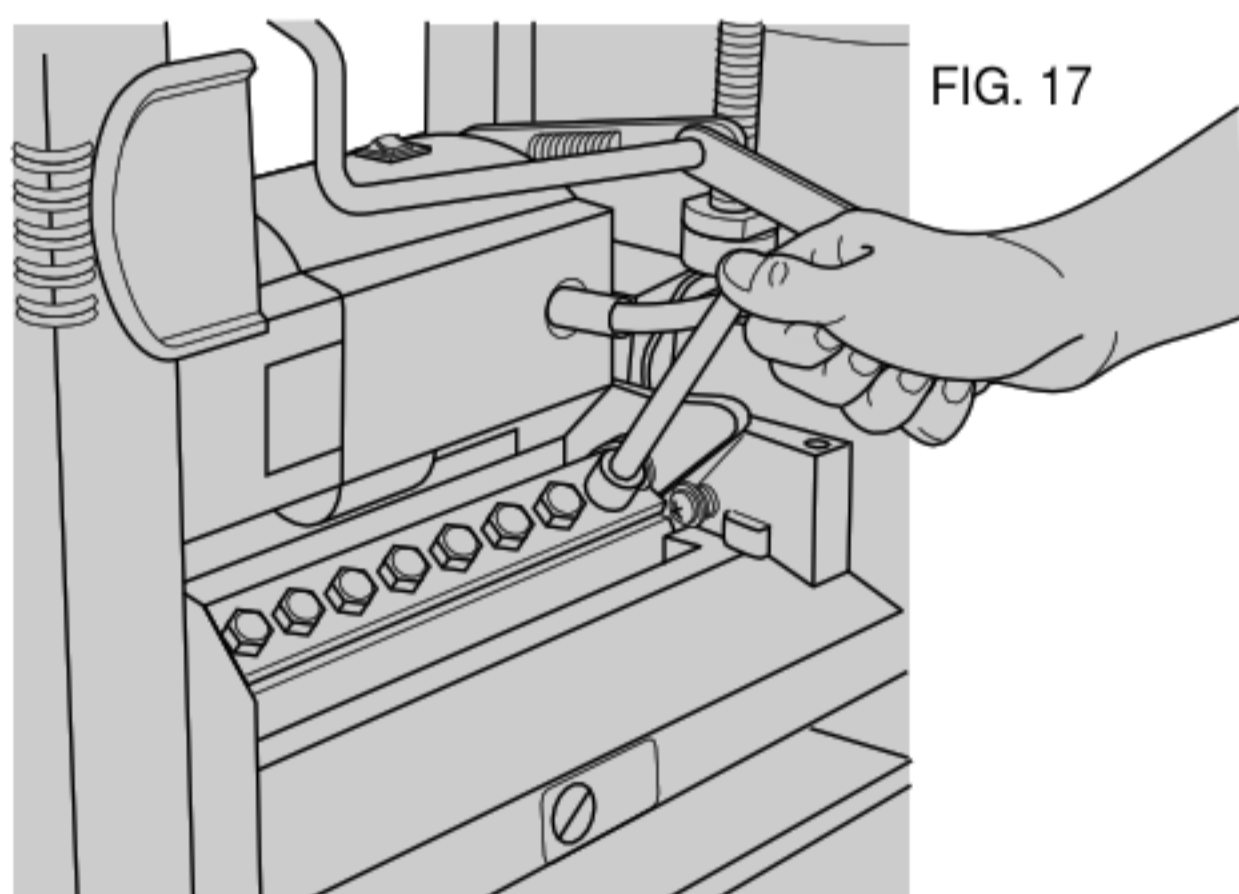

FIG. 17
- 6) Using the supplied L-shaped wrench, loosen, but do not remove the two end bolts shown in Figure 17.